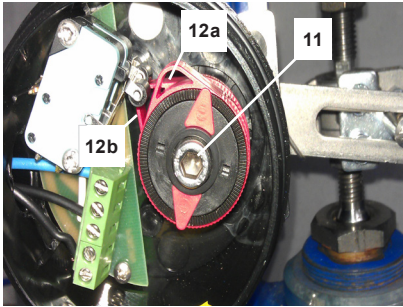

Fig. 2 SLM1
Referencing Figure 2 - Start with the valve and actuator assembly in the valve closed position. Untighten the screw (11) to free the two cams (12a and 12b), approximately 3 turns, and adjust the bottom cam to activate the bottom switch.
Referencing Figure 2 - Start with the valve and actuator assembly in the valve open position. Adjust the top cam to turn on the top switch. Tighten the screw (11) holding the cams in place.